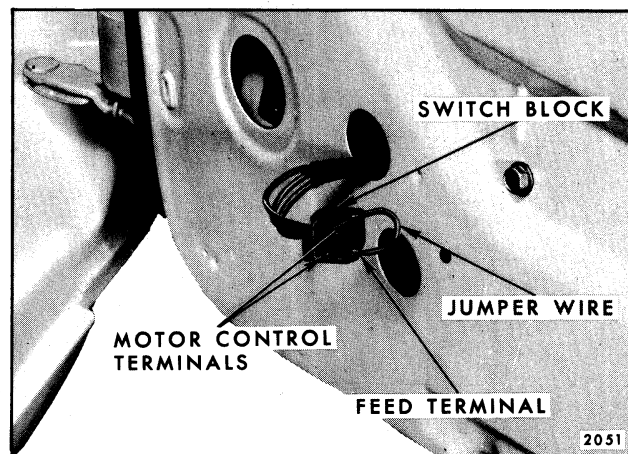

Fig. 10-10-Checking Window Control Switch
1. Insert one end of a No. 12 gauge jumper wire to the switch feed terminal and the other end to one of the motor lead terminals in the switch block. Repeat this check on the remaining motor lead terminal (Fig. 10-10).
2. Insert one end of a No. 12 gauge jumper wire to the switch feed terminal and the other end to one of the motor lead terminals in the switch block (Fig. 10-10).
1. Insert one end of a No. 12 gauge jumper wire in the switch feed terminal and the other end in one of the motor lead terminals of the switch block (Fig. 10-10).